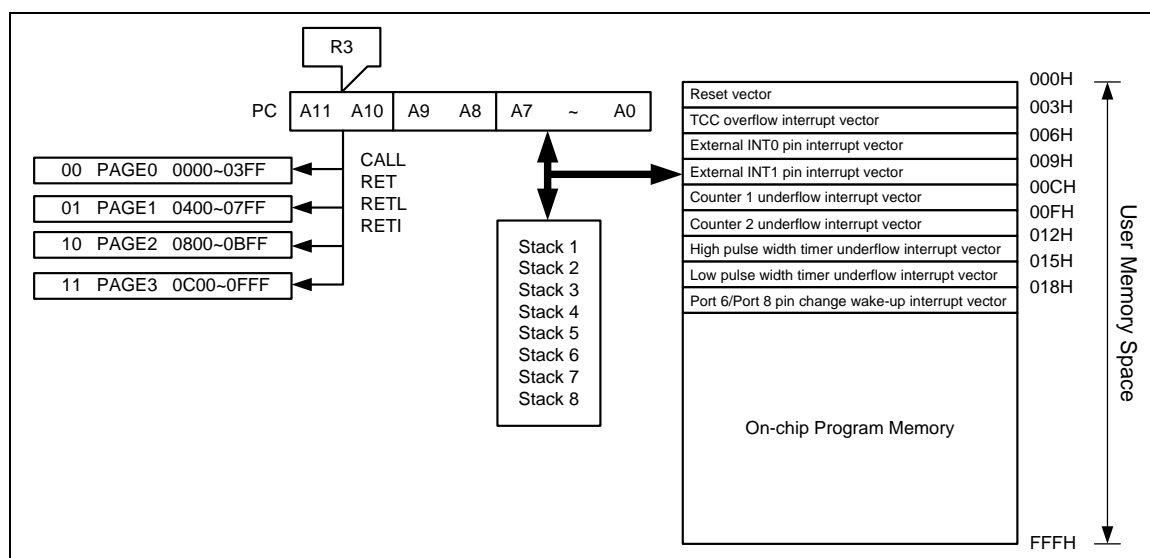

Figure 6-1 Program Counter Organization
- The structure of R2 is depicted in Figure 6-1, *Program Counter Organization*.